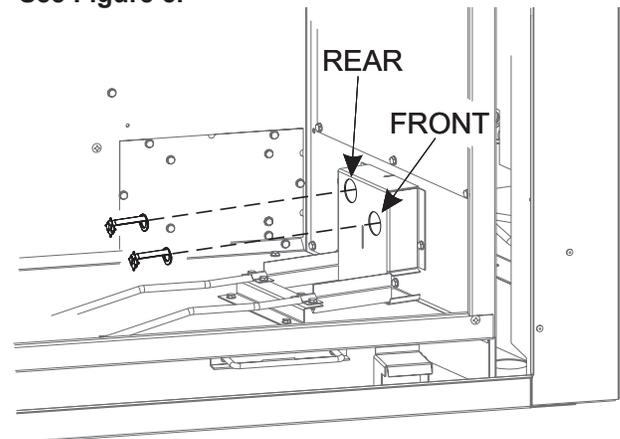

Figure 5
6. Use needle-nose pliers to remove targets and discard. **See Figure 5.**